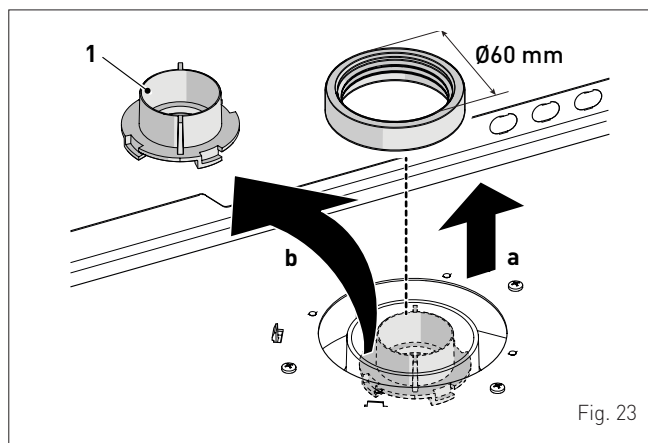

Fig. 23
- For model **Edea 30**, beyond a total load loss between discharge and suction of **9 mm H₂O**, remove the discharge diaphragm as illustrated in "Fig. 23".
- For model **Edea 40**, beyond a total load loss between discharge and suction of **12 mm H₂O**, remove the discharge diaphragm as illustrated in "Fig. 23".